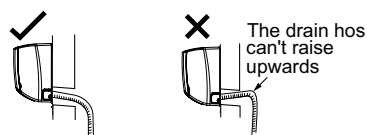

Fig.25
(1) The through-wall height of drain hose shouldn't be higher than the outlet pipe hole of indoor unit. (As show in Fig.25)